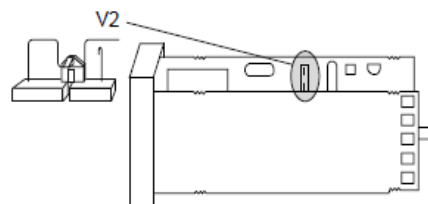

Figure 1
- Open V2 switch for Basic Configuration (Figure 1)
- Close V2 switch after Basic Configuration (Figure 1)
F001 = See Figure 1